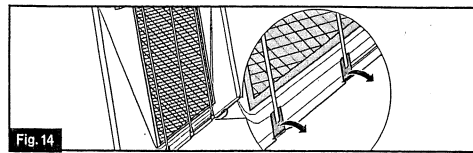

Fig. 14
3. To remove the filter, lift up on the filter rod tabs (6 total) and remove the rod from the filter panel. (Fig. 14)